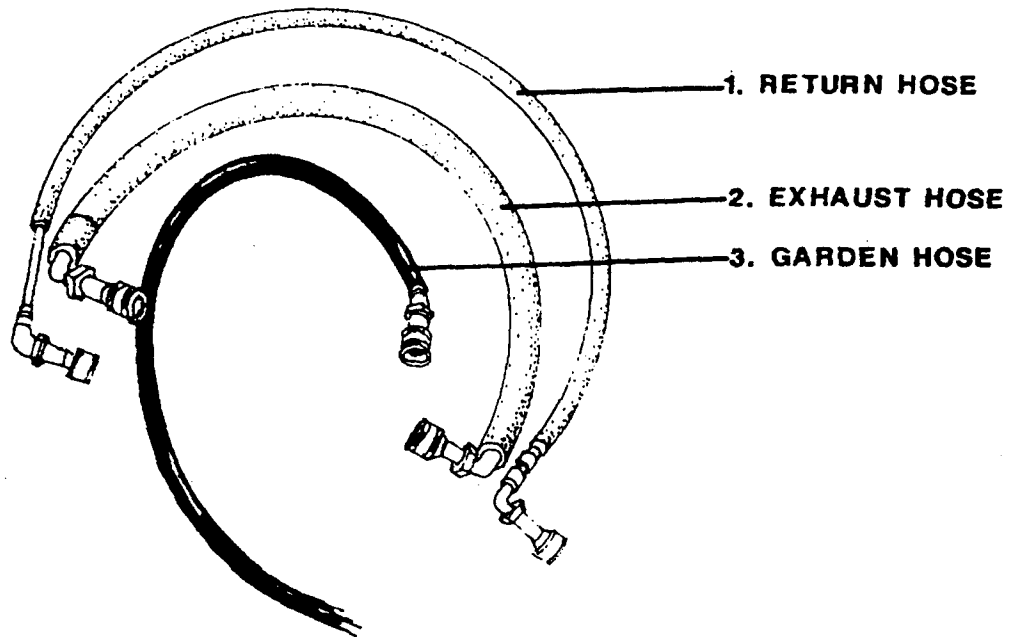

FIGURE 2-3. Hoses.
- g. Locate and identify the following hoses shown and described below (figure 2-3).